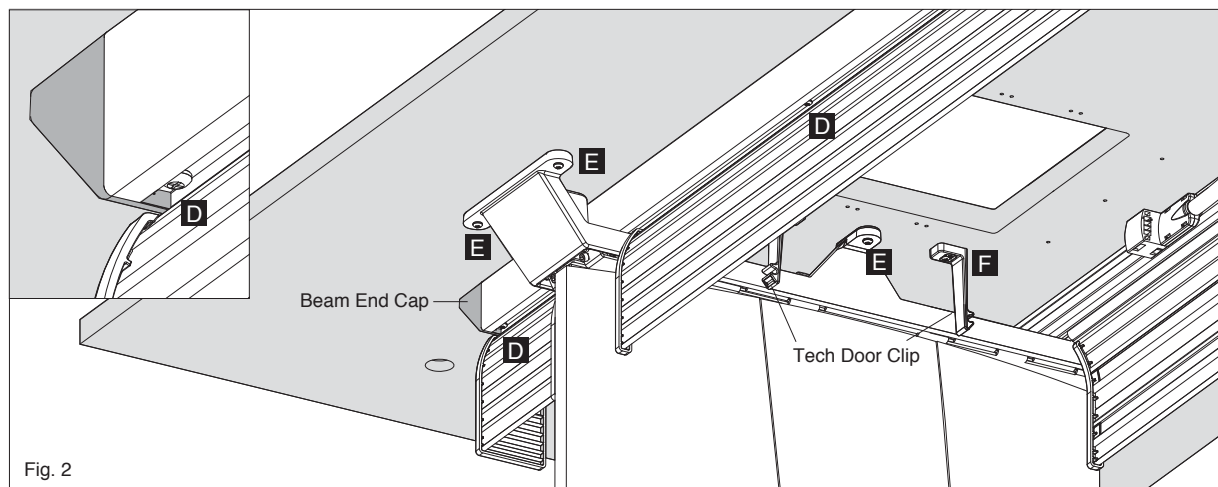

Fig. 2
**Start screws (D) through beam** end caps and beams in to pilot holes in the table top. After all beam screws are started, finish tightening all beams screws from the center to the ends. See Fig. 2.
**Install screws (E) through bracket casting** holes into pilot holes in the table top. (6 screws/bracket). See Fig. 2.
**Install each door clip** with screws (F) into pilot holes in the table top. (2 screws/clip). See Fig. 2.